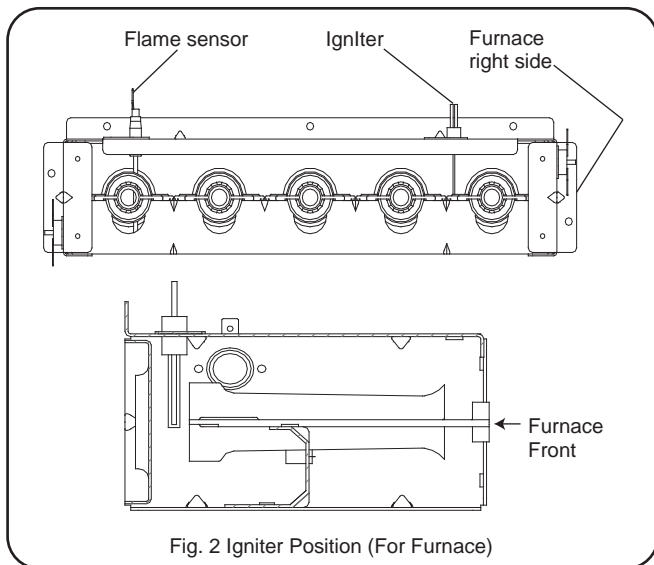
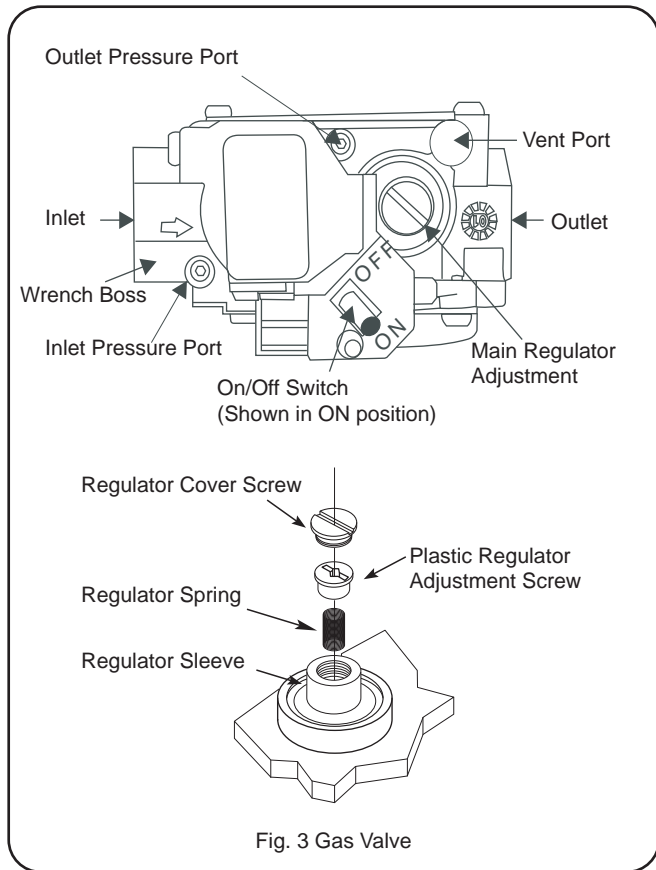

Fig. 2 Igniter Position (For Furnace)
Fig. 3 Gas Valve
1. Reinstall the gas manifold assembly to the burner box with the four (4) fasteners, which were removed earlier.
2. After installing the burner, inspect the alignment of the burners with the heat exchanger tubes. The center of the burners should be aligned with the center of the tubes. The igniter and flame sensor position refer to Fig. 2 and Fig. 3